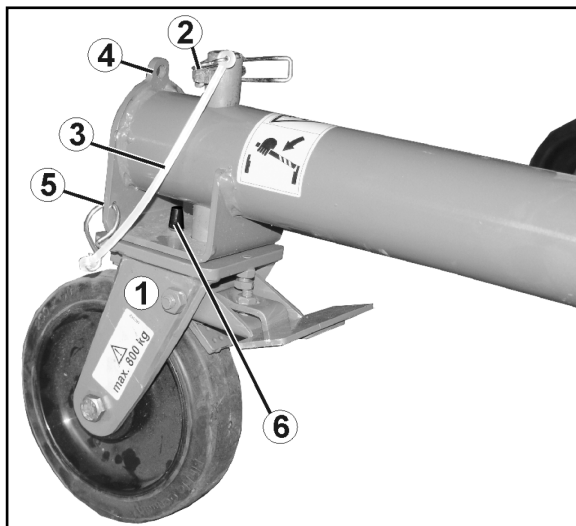

Fig. 52
5. **Front steerable** castors (Fig. 52/1) / **fixed rear** castors (Fig. 53/1)
- o Fit and secure with a clip pin (2) or